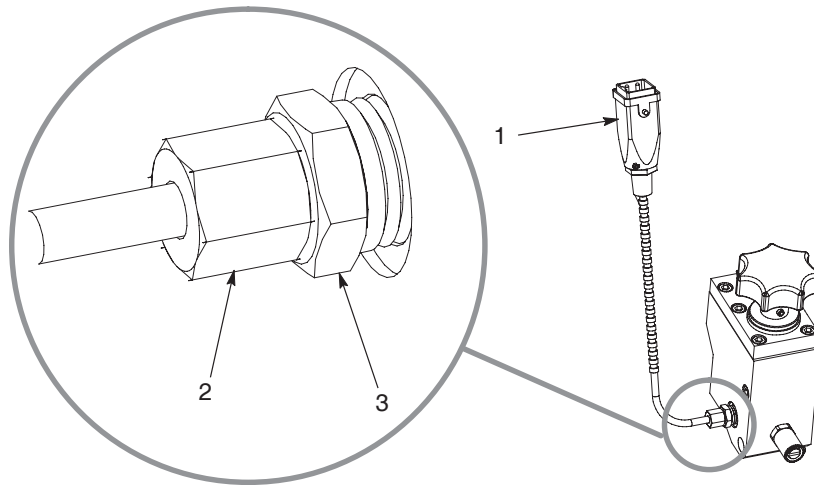

Figure 7-3 Immersion sensor components
3. See Figure 7-3. Using a $\frac{7}{16}$ -in. hex wrench, remove the sensor by unscrewing the nut and ferrule that secure the sensor to the fitting. The ferrule will be retained on the sensor.